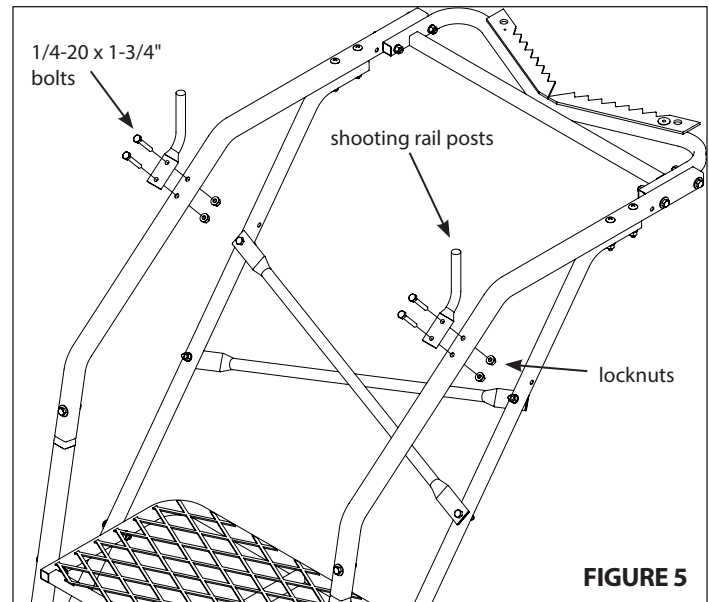

**FIGURE 2**
2. Insert the crimped end of two flared rails (10375) into the main side rails. Secure using (2) provided 1/4-20 x 1-1/2" bolts, locknuts and steel washers. **SEE FIGURE 2.** Pay special attention to orientation of flared rails.
3. Attach the foot platform (10370) to the inside of flared rails using (2) provided 1/4-20 x 2-1/4" bolts, locknuts and steel washers. **SEE FIGURE 2.**
4. Standing on ladder step, lean toward tree with ratchet strap now in hand, hook "S" hook with long strap through hole provided on tree blade. Feed the long strap through the center (slot) of ratcheting mechanism and back around through tightening lever. **SEE FIGURES 2 and 3.**
Wrap entire ratchet assembly around tree and hook other "S" hook through opposite tree blade hole. Pull tail of long strap until most of the slack is taken out. Be sure entire strap is even and at the same level all around tree. "Ratchet" tight to tree, this will securely attach ladder to tree and prevent movement. **SEE FIGURES 2 and 4.**